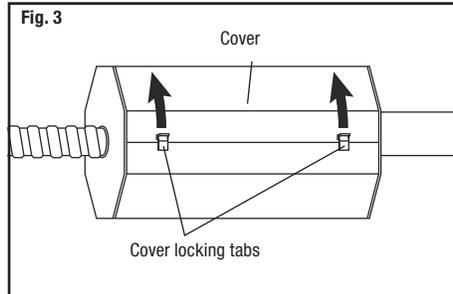

Fig. 3
2. Remove the driver enclosure cover. Remove the appropriate knock-out(s) to accommodate the type of electrical service to be used (Fig. 3).